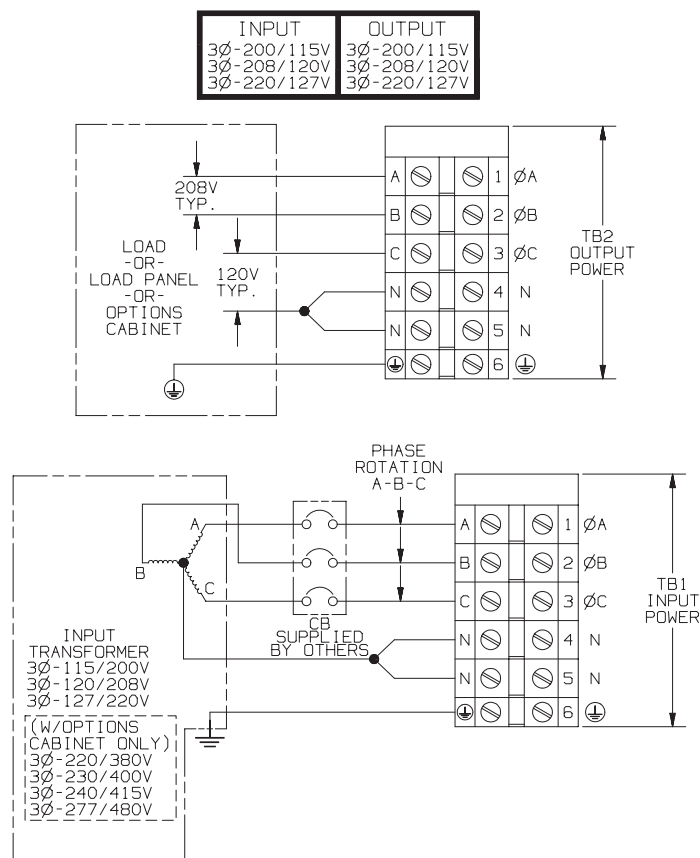

Figure 9. Power Cable Terminal Blocks (1 and 2)
3. Hardwire the input and output terminations for the UPS. See the following table for specifications and Figure 9 for terminal blocks.